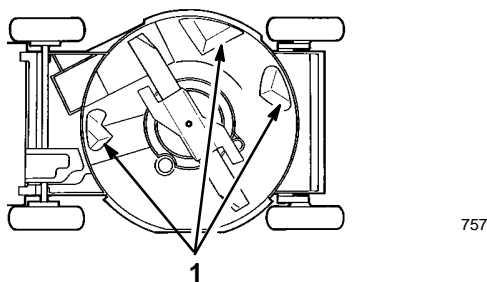

Figure 23
To ensure best performance, keep the underside of the mower housing clean. Be especially careful to keep the kickers free of debris (Fig. 23).
3. Tip the mower on its left side (Fig. 23).